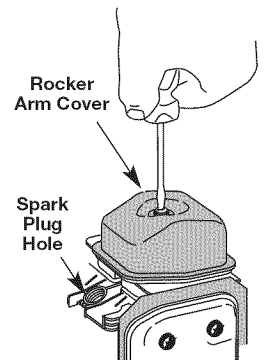

Fig. 31
- Clean dirt from around the rocker arm cover. Remove the screw holding the rocker arm cover with a large flat blade screwdriver or Torx T-25 bit (Fig. 31). Remove the rocker arm cover and gasket.